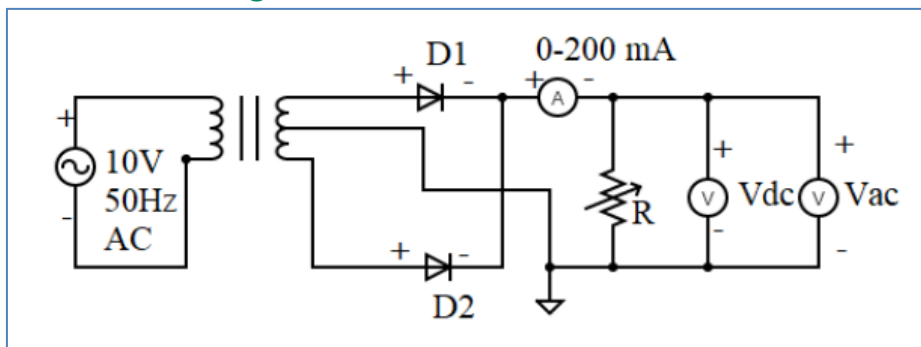

Fig 7 Voltage Regulator
2.2 Examine the Characteristics of voltage regulator using hardware shown in fig 7.